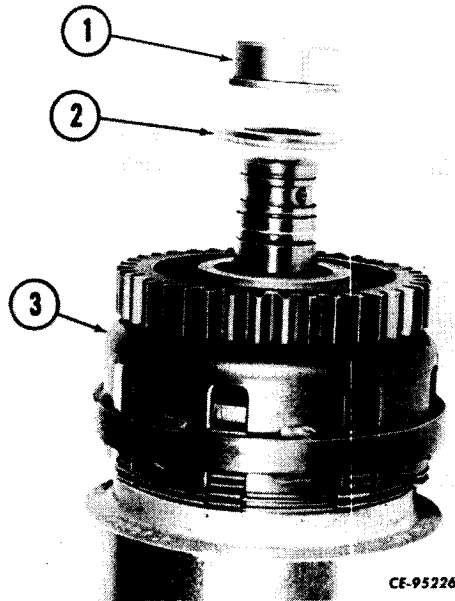

Figure 4-124
Install gear and cup assembly (3, Fig. 4-124) thrust washer (2) and inner bearing race (1) on shaft.